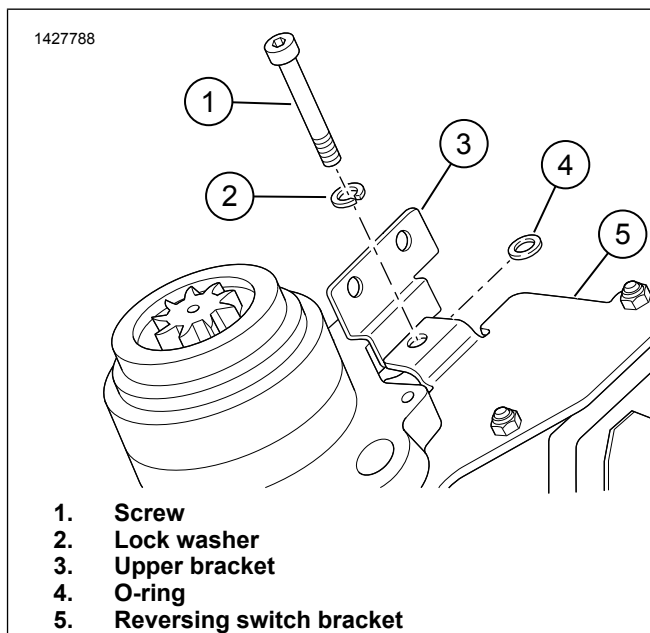

Figure 49. Contactor Z Upper Bracket
See Figure 49. Remove reversing switch bracket.
See Figure 49. Position upper bracket (3) between o-ring (4) and reversing switch bracket (5).
8. Install screw (1) with lockwasher (2).